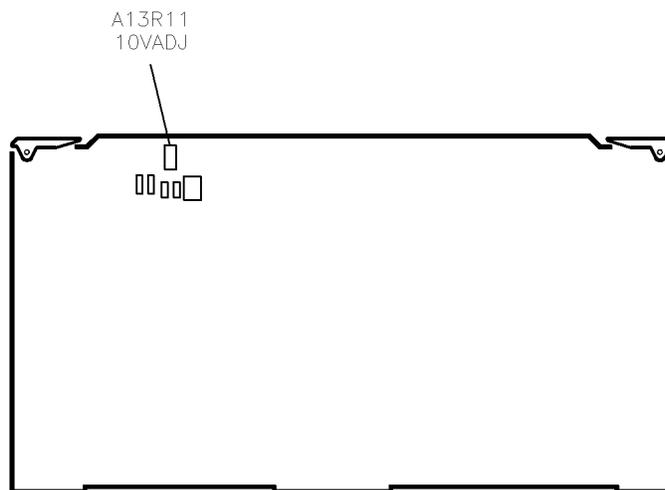

Figure 3-10. YO Driver +10V Reference Adjustment Location
4. Adjust A13R11 (see Figure 3-10) to center the “needle” on the display.